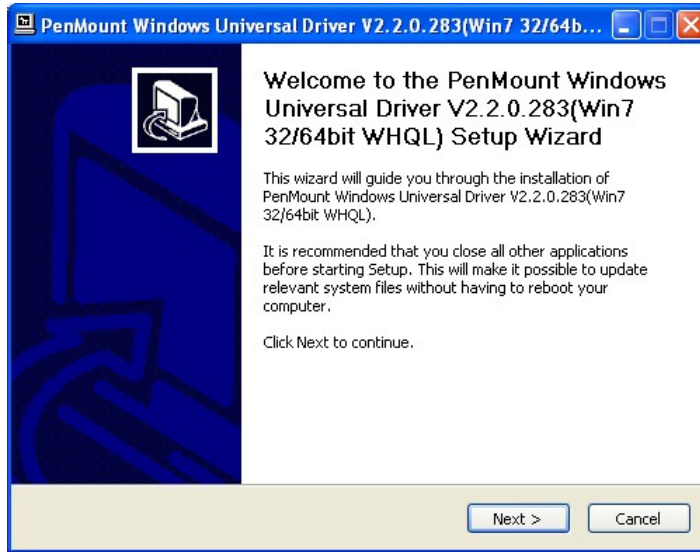

Figure 5-2: Welcome Screen
Step 5: The Welcome screen in **Figure 5-2** appears.